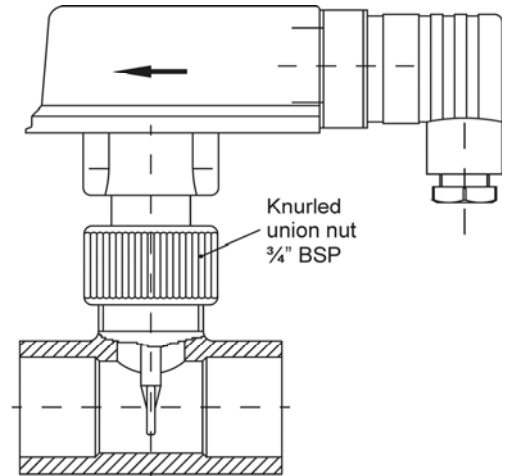

Fig. 6
- ↗ With version ...MKU seal the PVC tube section (Fig. 6) in the pipe using suitable adhesive joints.